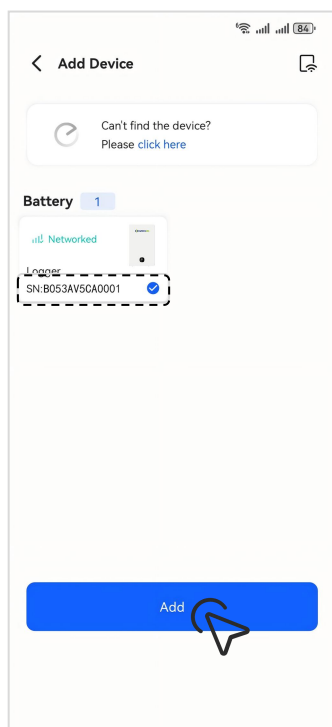

Figure 31
- Tap "Add" to bind the devices to your station, as shown in Fig. 31.